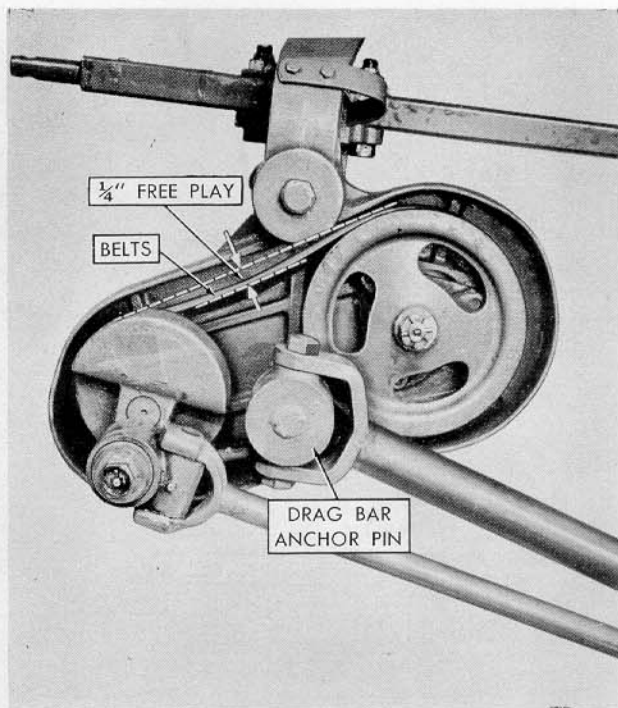

Figure 5
adjusting bolt until the belts have about  $\frac{1}{4}$ -inch free play (see Figure 5). Tighten the three capscrews securely.
**Step 18:** Remove anchor pin from belt housing and attach drag bar (with angle up, see Figure 5). Place the tapered rubber bushings on each side and draw up the anchor pin in order to position rubber bushings. *Do not tighten.*